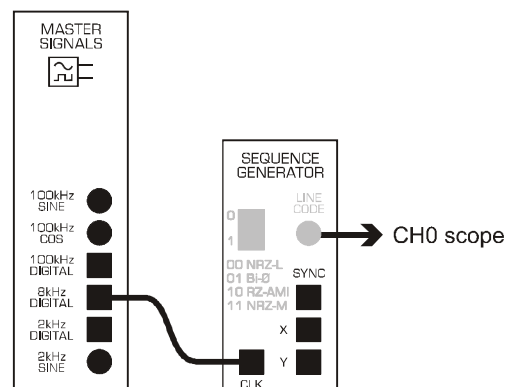

Figure 29: "adjust_SG_settings" wiring diagram
1. Use patching cords to wire up DATEx blocks according to the wiring diagram in Figure 29.